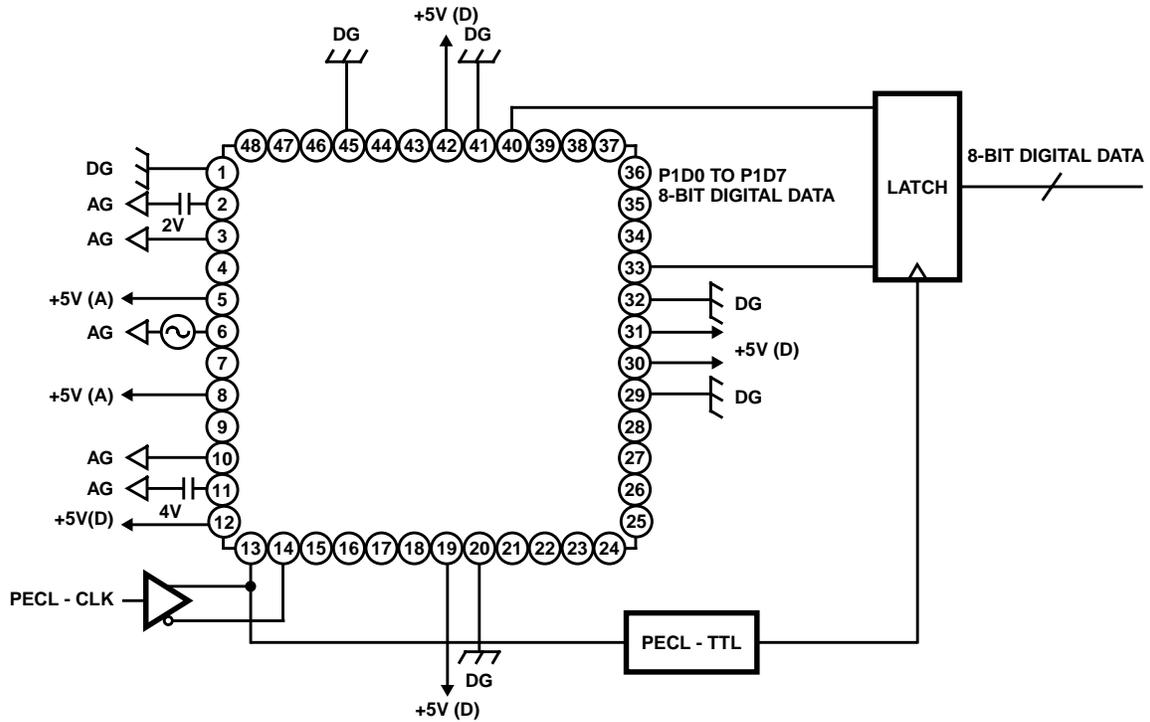

FIGURE 20. STRAIGHT PECL INPUT
**Straight Mode (See Application Circuits, Figures 20, 21)**